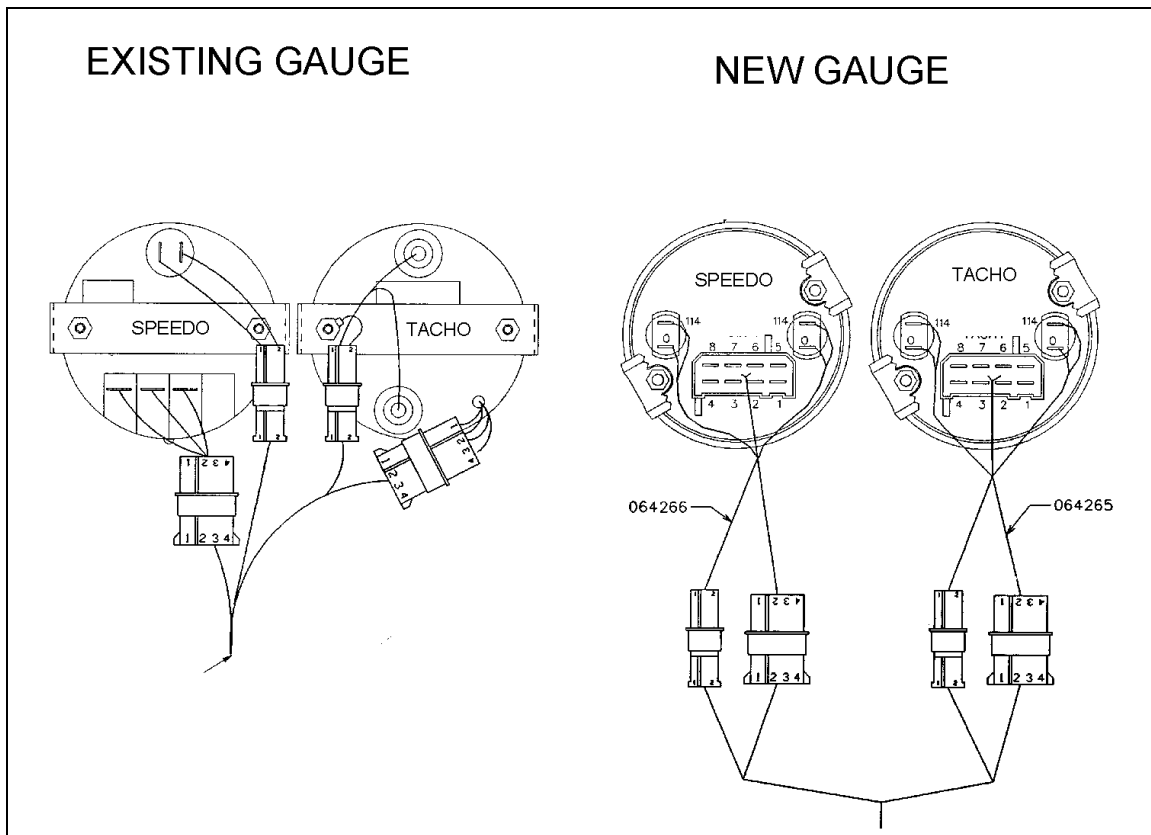
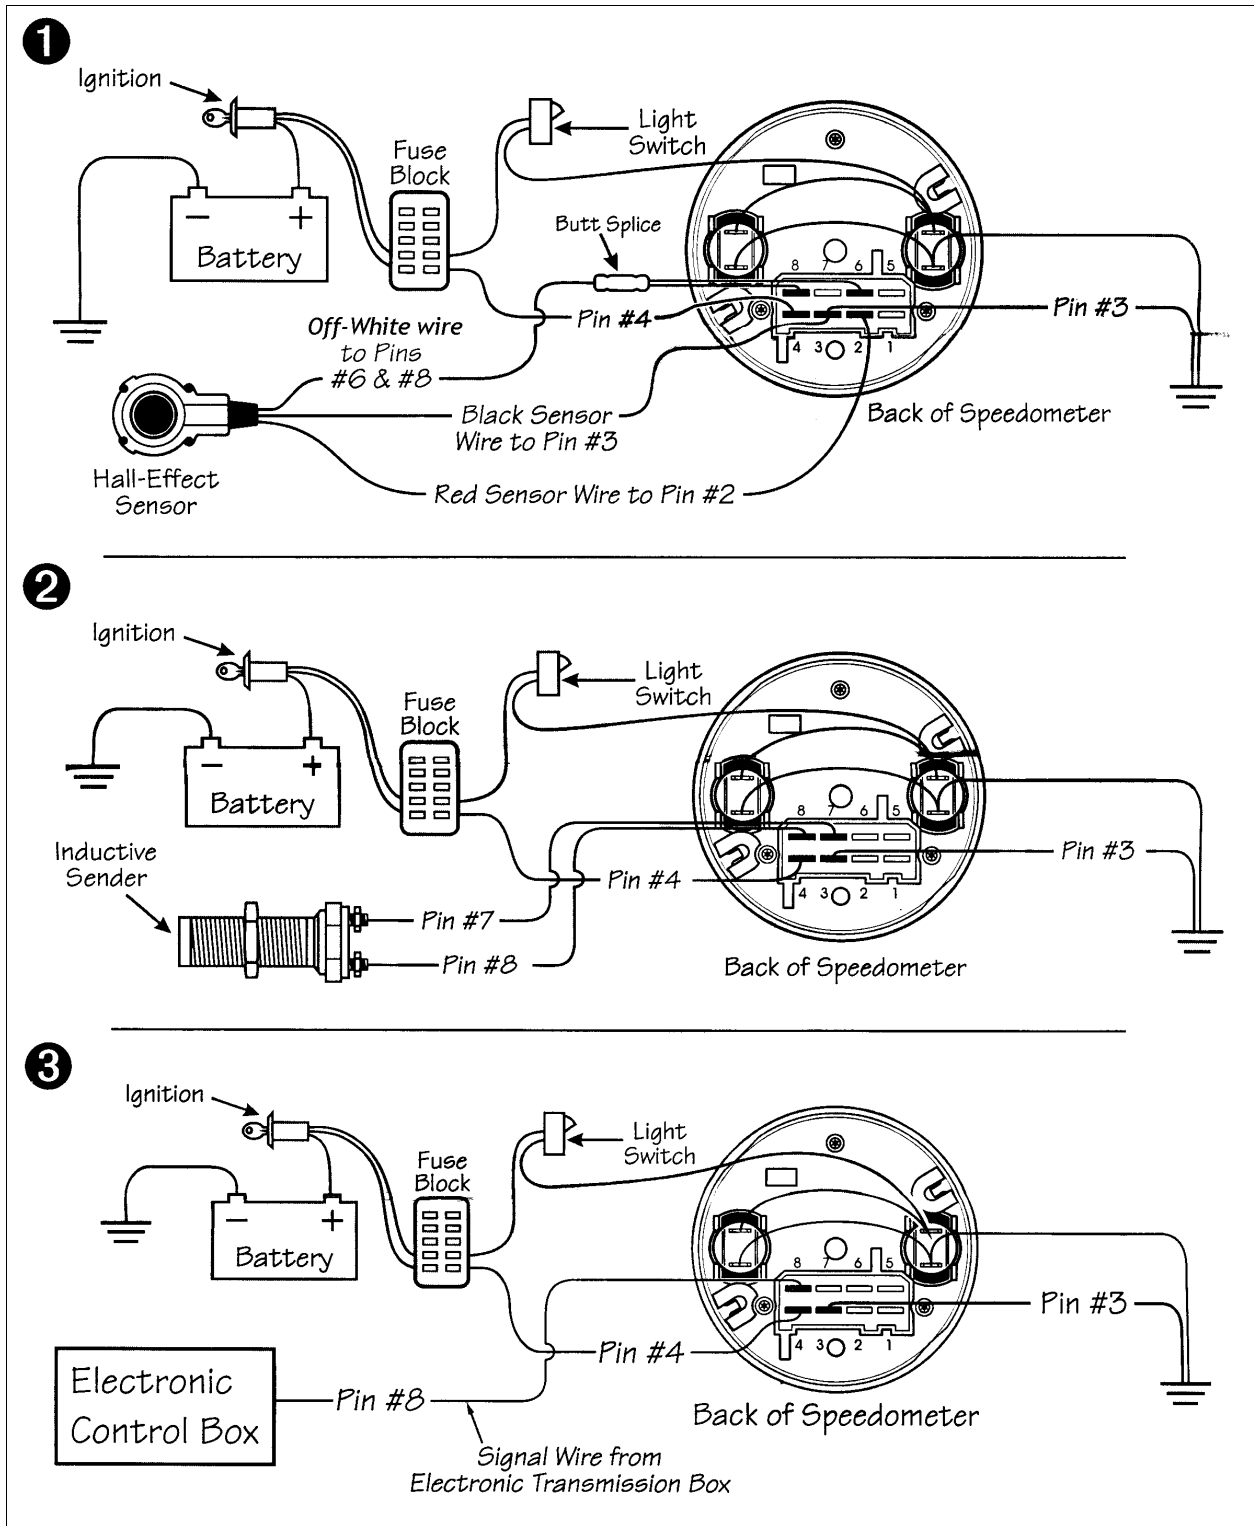

FIGURE 1
FIGURE 2: SPEEDOMETER WIRING. 1: HALL-EFFET SENSOR; 2: INDUCTIVE SENDER; 3: TRANSMISSION ECU
7. Using harness #064266 & #064265, connect the instrument according to figure 1. If it is not possible to connect the harness to the vehicle connectors, use figure 2 & 3 to identify the type of connection required for your vehicle and connect according to these figures.